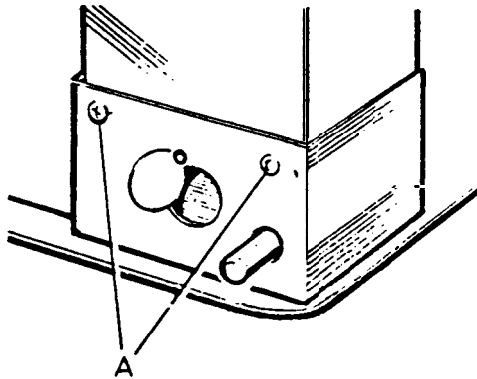

Fig. 75
1. Remove the outer burner shield by means of loosening the **two** screws A (Fig. 75).